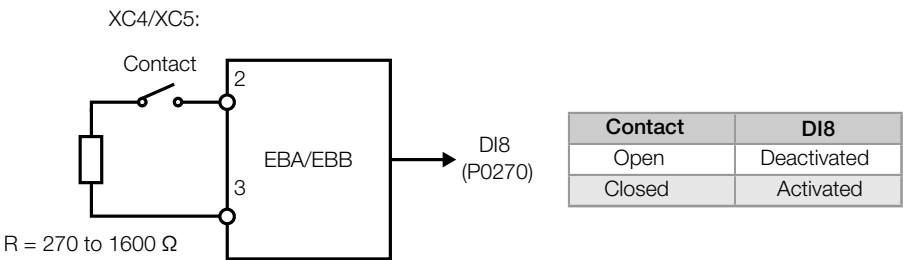

Figure 5.33 – DI8 as a normal digital input
- In order to use the DI8 as a normal digital input, program the designated function at P0270, and connect a resistor, ranging from 270 to 1600  $\Omega$ , in series with the contact (Figure 5.33 on page 5-54).